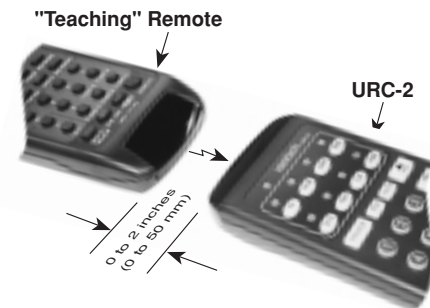

Fig. 5
1. Place the URC-2 and the "teaching" remote on a flat surface, facing each other as shown in **Fig. 5**.